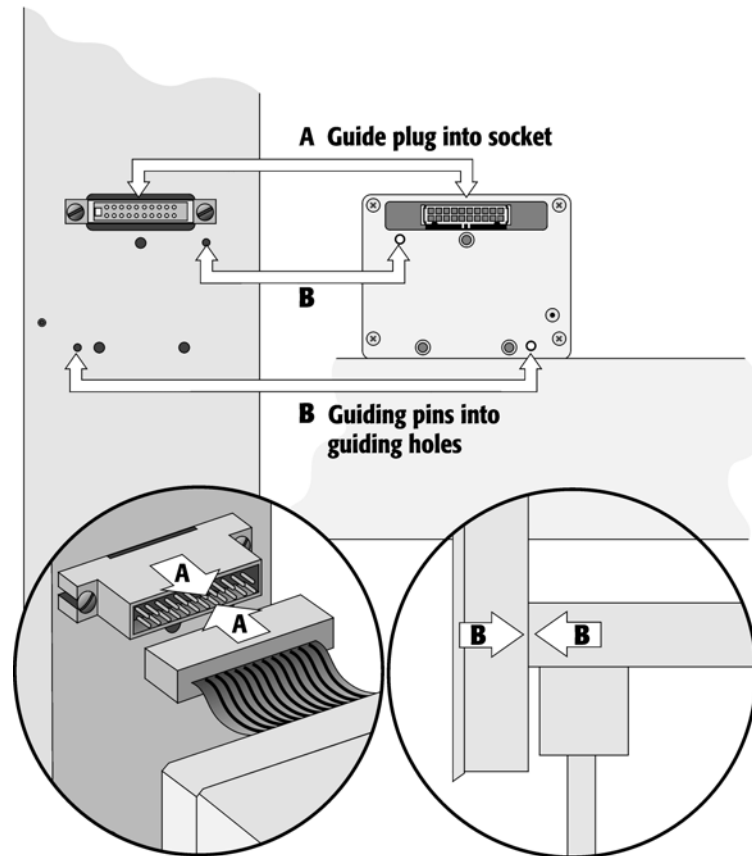

Figure 7. Connecting the Injection Unit Flat Cable
- 2 Connect the flat ribbon cable A protruding from the front end of the Y Crossrail to the corresponding connector on the Injection Unit (see Figure 7).